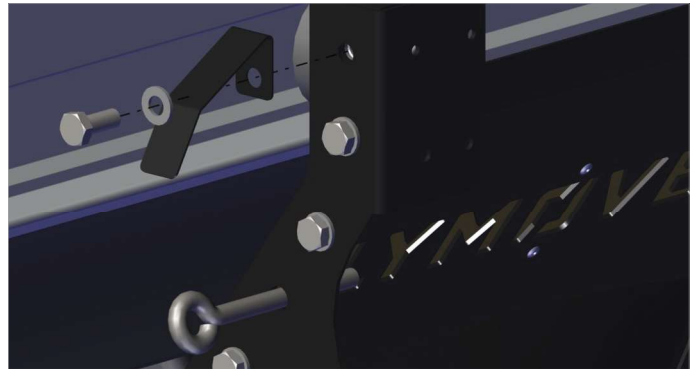

Fig. 6.3.3 Mounting the start/stop bracket on the crab.
- Mount the start/stop bracket to the crab using self-tapping screws ¼ x 1 in. (6.3 x 25 mm). Refer to fig. 6.3.3.